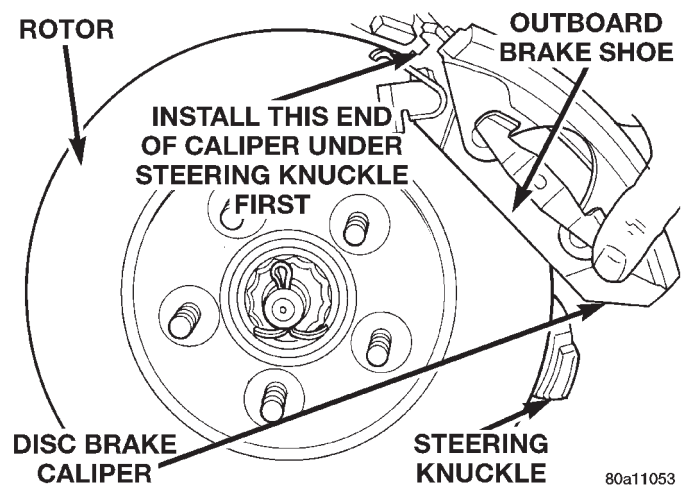

Fig. 53 Installing Brake Caliper
(8) Install braking disc back on hub and bearing assembly.
(9) Install disc brake caliper assembly on steering knuckle. Caliper is installed by first sliding top of caliper under top abutment on steering knuckle. Then installing bottom of caliper against bottom abutment of steering knuckle (Fig. 53).